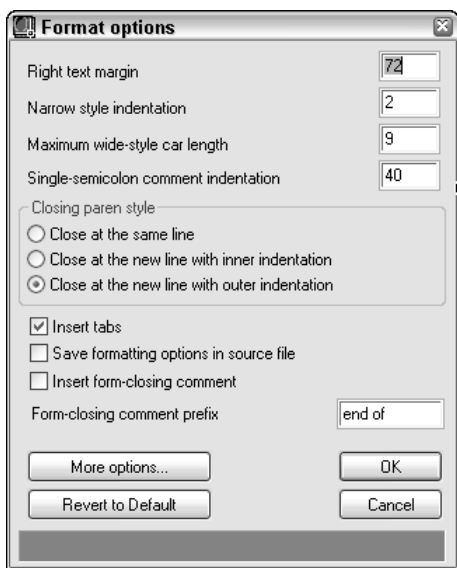

Figure 35-8: Use the Format Options dialog box to format margins and indentation in the Visual LISP editor.
- ♦ **; Single semicolon:** By default, Visual LISP indents a comment with one semicolon by 40 spaces. Choose Tools ⇨ Environment Options ⇨ Visual LISP Format Options to open the Format Options dialog box, shown in Figure 35-8, and change this value if you want. You can use this type of comment for running comments at the right side of your code. Because they're indented, they stand out from the body of your code.